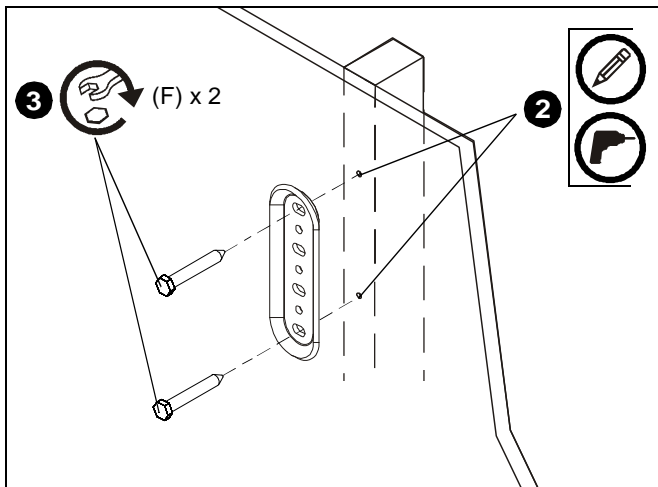

Figure 1
2. Using wall plate (D) as a template, mark then drill two 1/8" diameter pilot holes through top and bottom holes of wall bracket into wall structure. (See Figure 1)
3. Install two 3/8" x 3" hex head lag screws (F) through wall plate (D) and drywall into wood stud. (See Figure 1)
4. Ensure wall plate (D) is vertical, then tighten screws (D).